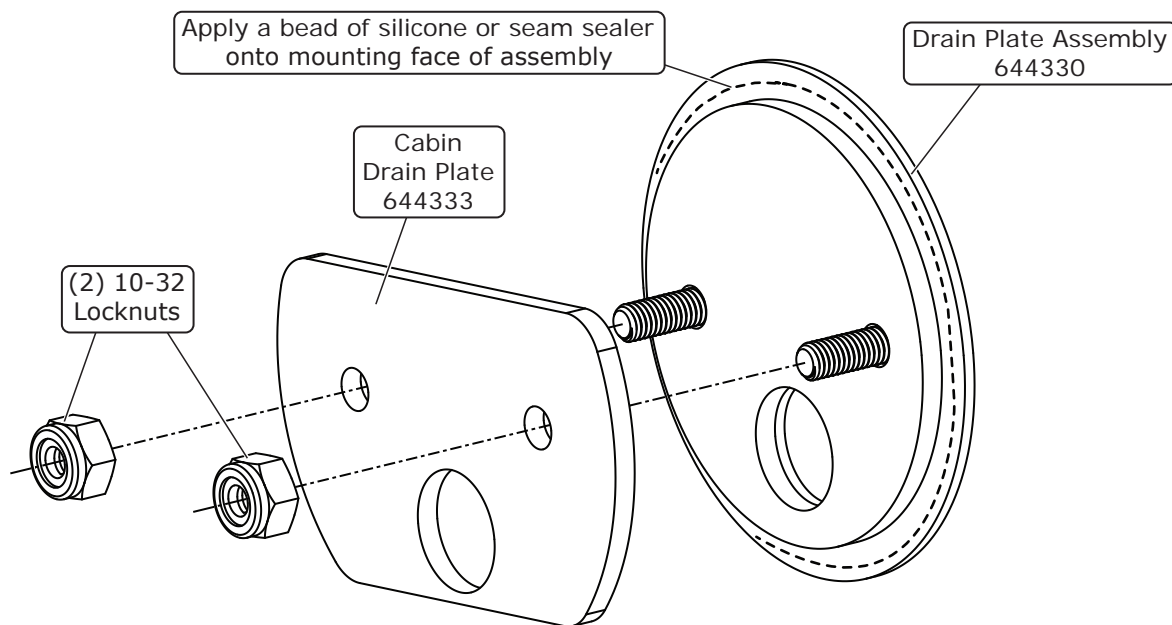

Figure 1
1. Install the cabin drain plate onto the studs of the assembly as shown in Figure 1, below. Secure with (2) 10-32 locknuts until flush with the studs.
4. For the final installation, apply a bead of silicone or seam sealer around the mounting surface of the assembly, then install (See Figure 1, below).